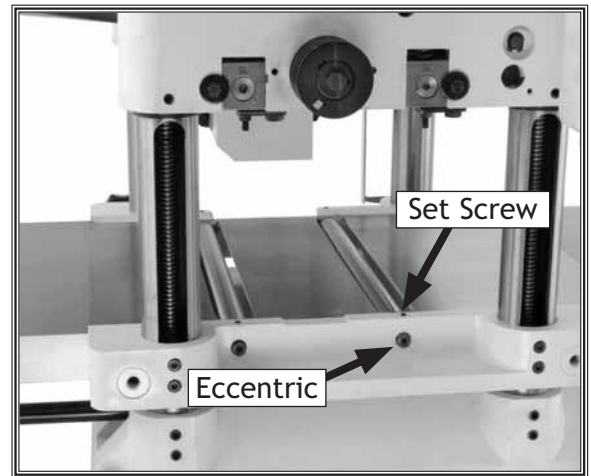

Figure 11. Roller set screws.
1. Loosen the eccentric set screws shown in **Figure 11**.